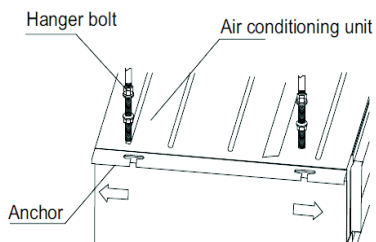

Fig. 8 — Install the Hanger Bolts
1. **INSTALLING HANGER BOLTS** - Install the hanger bolts (see Fig. 8, top view). Use a Ø0.39in./(10mm) all-threaded rod.